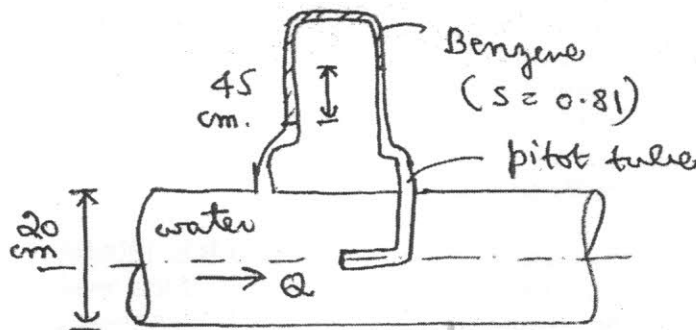

Fig. 4(b)
- A pitot tube is connected to a pipe carrying water as shown in Fig. 4(b). If the mean velocity is 80% of maximum velocity, compute the discharge in the pipe. Assume coefficient of tube as 0.98. 5 L3 3